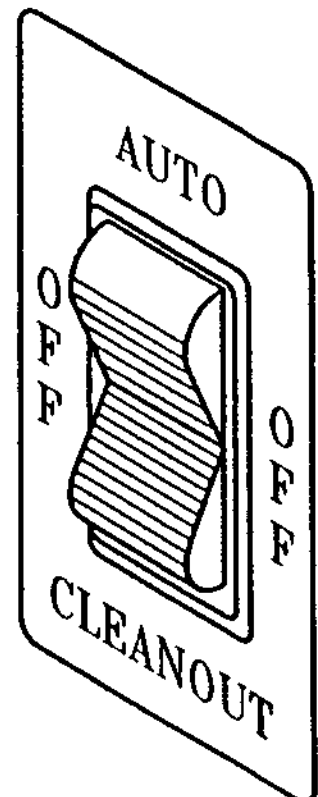

Fig. 29
6. Start the machine by setting each control switch (Fig. 29) to the top "AUTO" position. The dasher motors and the compressor(s) will be activated.